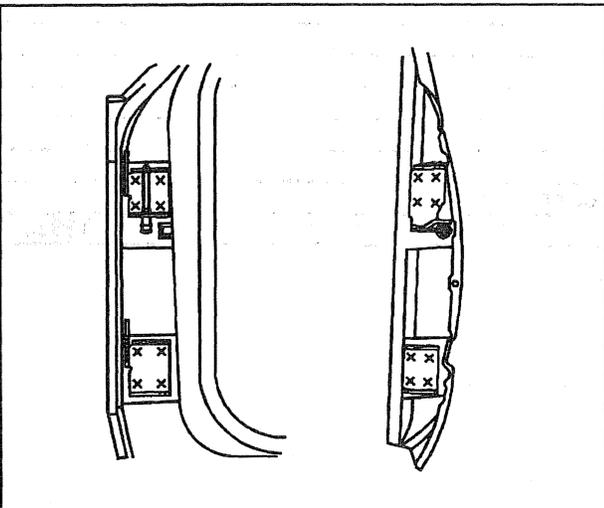

Figure 47—Spot Weld Locations
↔ Remove or Disconnect (Figures 47, 48, and 49)
B. Center punch each of the weld marks on the original hinge (figure 47). It is critical to punch the center of the weld so that all of the weld is removed during drilling.
↔ Install or Connect (Figures 47, 48, and 49)